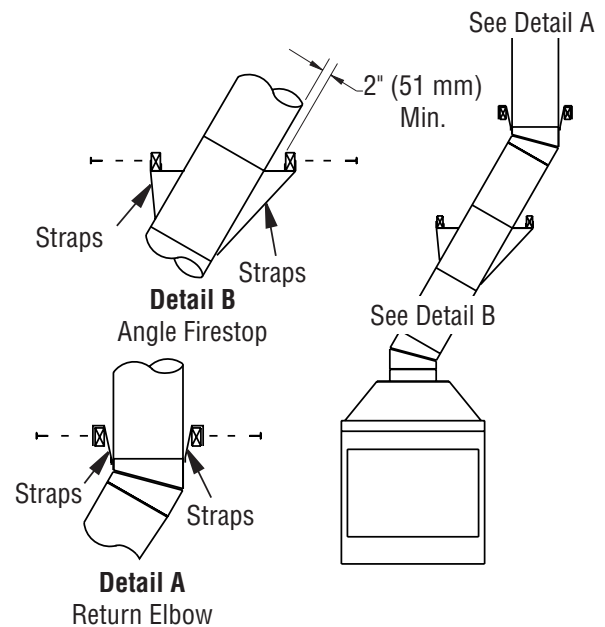

Figure 13 - Ceiling Support Pipe 12S-12DM
2. Chimney weight above offset rests on return elbow. Straps must be securely nailed to rafters or joists (see Figure 13, details A and B).